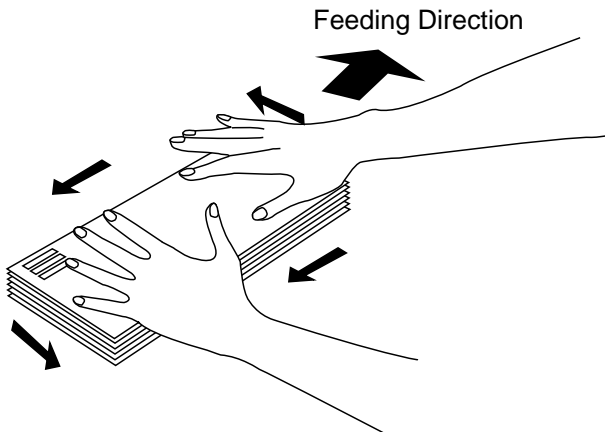

Fig. 2.6 *Align Envelopes*
1. Align up to 20 envelopes, from right to left and from top to bottom, in a stack and place on a flat surface. Press down on the corners as shown (fig. 2.6). This makes the folds crisp and expels the air from the stack.